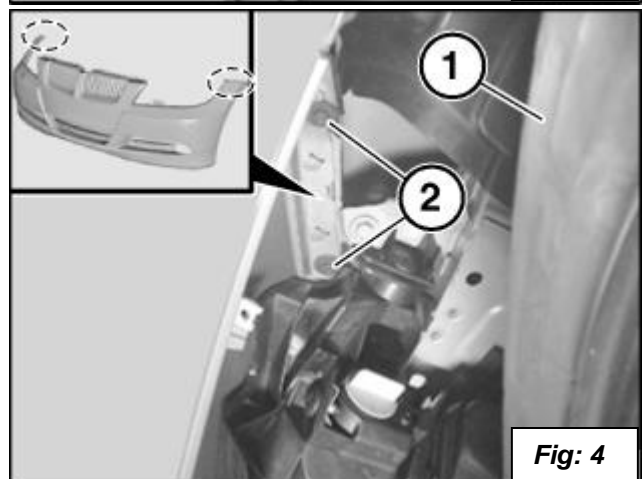

Fig: 4
6. Pry the inner fender (1) out of the way and remove the two screws (2) holding the bumper to the fender. See **figure 4**.